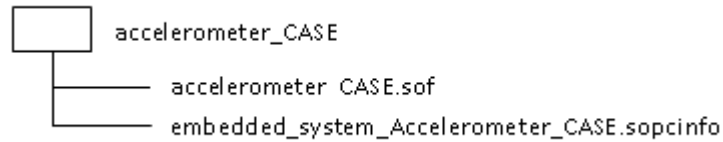

Figure 12: Project folder for accelerometer CASE.
2. Unzip the hardware files in into the project folder. It should look as in figure 12.
3. Create a new Nios II project named `accelerometer_CASE` based on the `.sopcinfo` file in figure 12 and the *Hello_world* template. Open the BSP editor and uncheck the “Support for C++” option and check the “Use reduced device drivers” and “Use small C library” options.